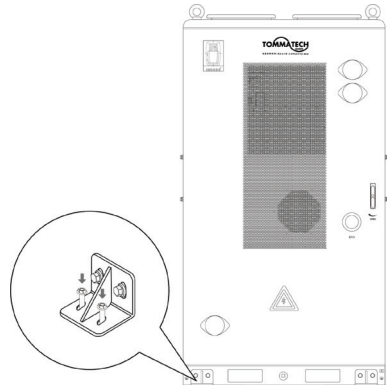

Figure.4
7. Secure the cabinet to the ground by mounting nuts onto the expansion bolts. (Figure.4)